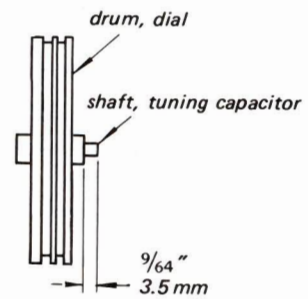

Fig. 2-3-2. Dial drum reassembling
4. When reassembling the dial drum, assemble it as shown in Fig. 2-3-2.